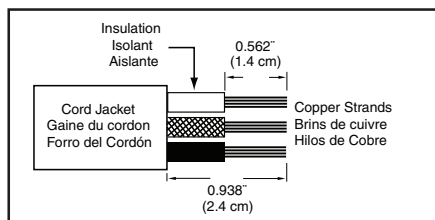

Fig. 1 / Fig. 1 / Illustration 1
- Strip cord jacket 0.938" (2.4 cm). Strip insulation to expose 0.562" (1.4 cm) bare copper at the end of each conductor as shown in Fig. 1 or per strip gage on device.
- Reattach the wired device module to the housing by aligning key guide on the module to the key on the housing. Tighten the three (3) assembly screws.
7. Pele el forro del cordón 2.4 cm (0.938"). Pele cada conductor para exponer 1.4 cm (0.562") de alambre, use la calibre de pelado descrito en el producto o en el **Fig. 1**.
For Figs. 1 and 2:
Para Figs. 1 y 2: